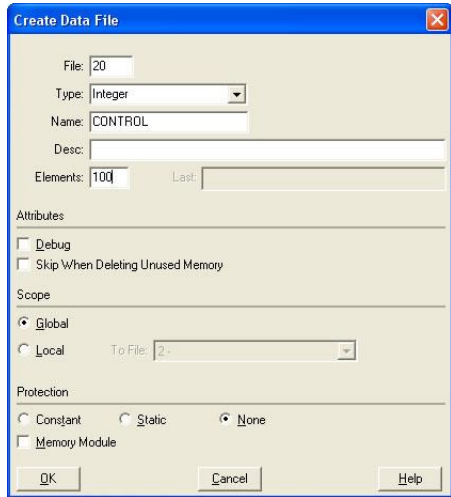

Figure 61: Creating a Control File
- a) Right click Data Files and select New... The “Create Data File” dialog box appears (refer to Figure 61).